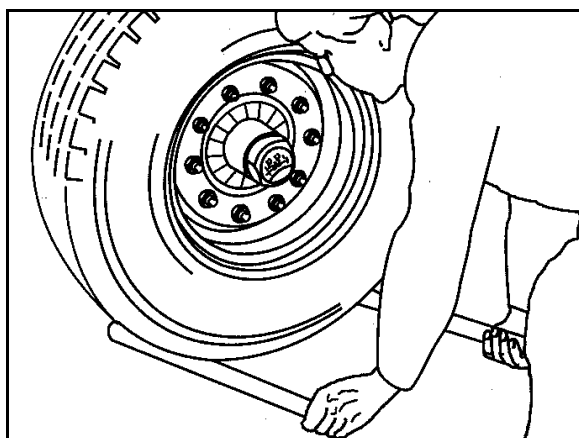

Fig. 88
1. To check the play on wheel hub bearings, raise the axle until the wheels turn freely (Fig. 88).